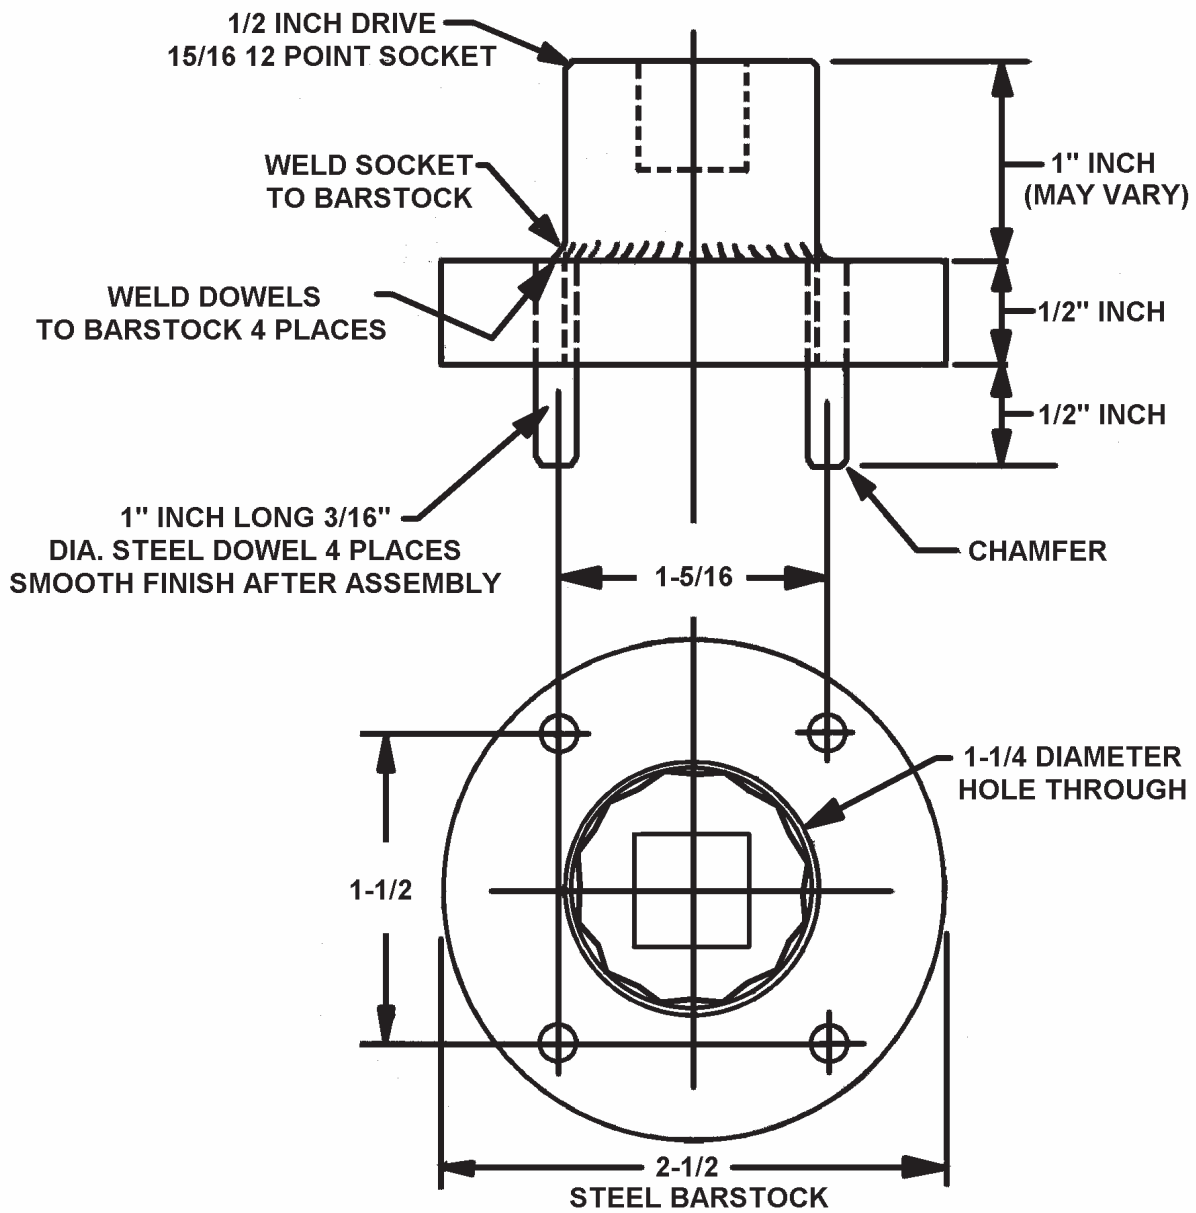

Figure 2-5. **Gear Driven Alternator Drive Hub Torque Tool**
3. Measure the drive hub assembly slippage using an “Alternator Drive Hub Torque Tool” (Figure 2-5) and a currently calibrated torque wrench set to value for the drive hub condition specified in Table 10-4. Turn the hub through a 45° arc at a rate of 1° to 2° per second. No slippage is permitted below the value specified in Table 10-4.